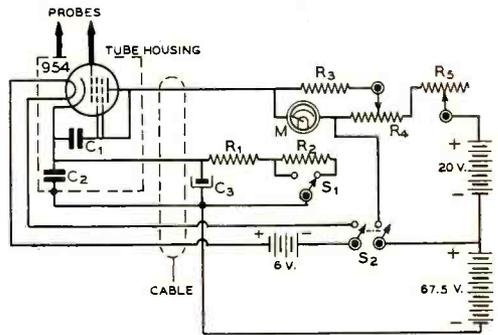

Figure 4.
Figure 4. Two types of mercury "verticals." (A) Only top section is variable. (B) Top and center sections are both variable making a "five and ten" or "ten and twenty" antenna. Central section also acts as a switch to connect top section.
The circuit shown in figure 4, which is taken from RCA Application Note no. 47, provides a v.t.v.m. usable on frequencies up to 50 Mc. The input capacitance is only $1.4 \mu\text{fd}$. The meter may also be used on audio, low-frequency a.c. and d.c., of course. The tube
Now notice figure 4. This shows a plane flying the beam. The pilot is not sure of his
Figure 4. Diagram showing the necessity for having a marker transmitter for indicating to the plane when it has passed over the beam transmitting station so that the pilot may reverse his sense in regard to the A and N sides of the course.